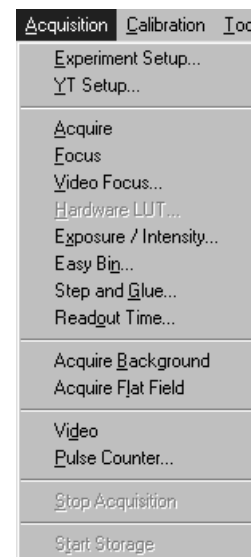

Figure 39. Acquisition menu
1. If running a PI-MAX system, turn the room light down or off and switch the **Camera State** to **Shutter (CW)** mode on the Acquisition|Experiment Setup|Main tab page.
2. Select **Focus** from the **Acquisition** menu (Figure 39) to begin collecting data. An acquisition can also be started by clicking on the **Focus** button in the Experiment Setup dialog box or by clicking on the **Focus** button on the **Custom Toolbar**. Data will be continuously acquired and displayed.